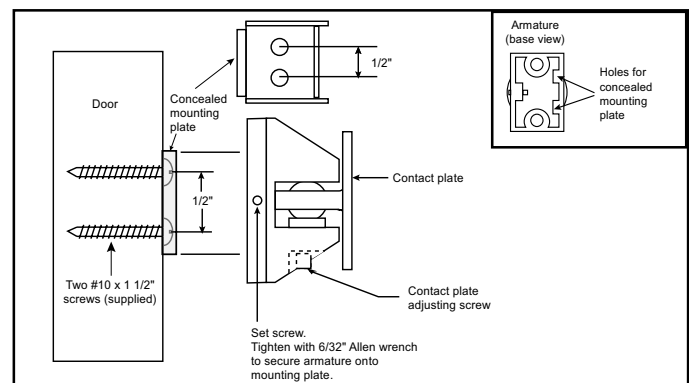

Figure 6. Surface Concealed Mounting
- b. **Surface concealed mounting (Figure 6).** Measure two points for 1/8" holes drilled 1/2" on center equidistant
Align the holes for the concealed mounting plate in the armature base with the pins on the concealed mounting plate. Secure the armature assembly, with the contact plate adjust screw facing down, to the door by tightening the set screw as shown in Figure 6.